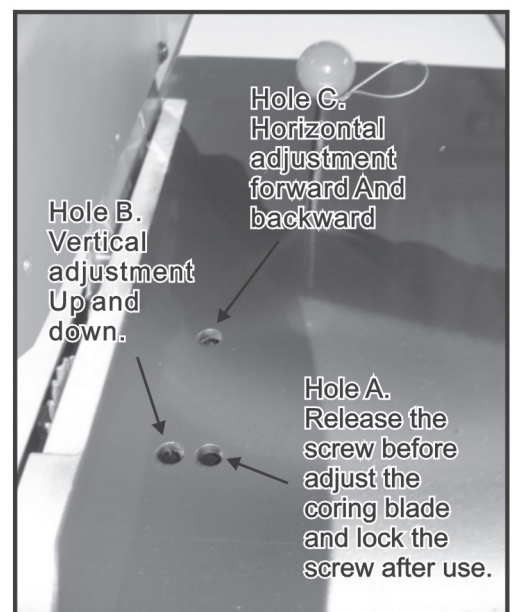

Fig. 26
2. Release the screw in Hole A before adjust the scoring blade and tighten the screw each time after adjustment. (Fig. 26, Hole A)